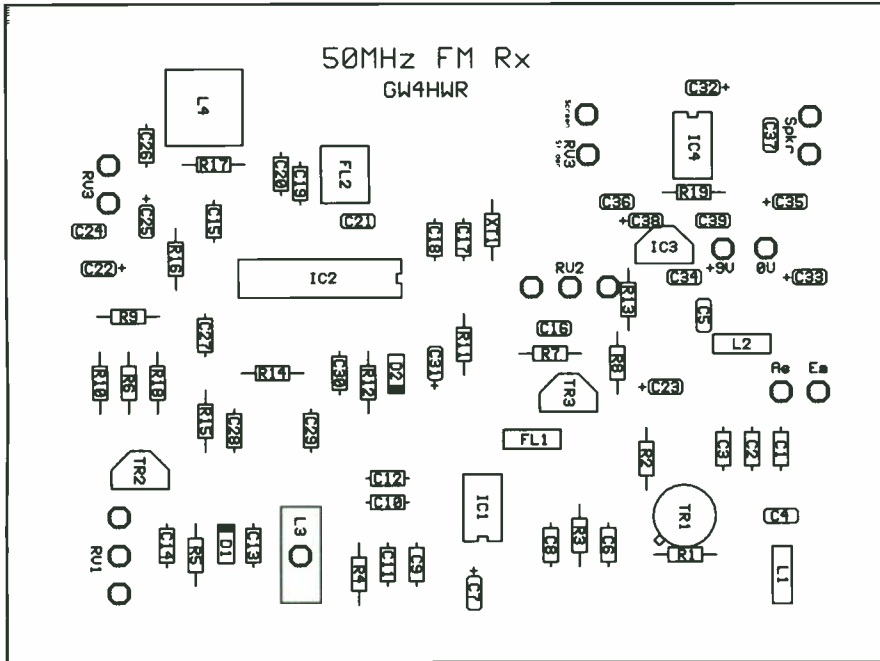
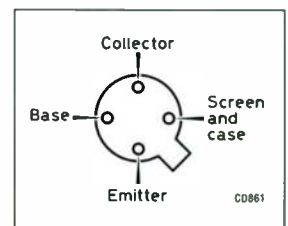
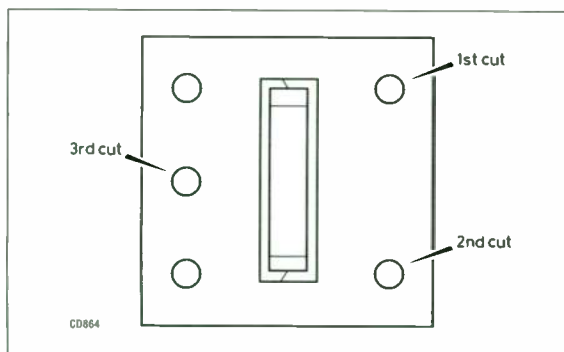

Fig 6.4. The layout of the components on the PCB as viewed from the plain side of the board
Fig 6.5. The pin connections of a BFY90 viewed from the underside
Fig 6.8. The order of 'cutting out' the pins from L4
1. Make a start by inserting the 16 terminal pins. The holes for these are indicated in the component layout diagram shown in Fig 6.4 by a ring. The pins should be inserted from the track side of the PCB and pushed down so that the heads are resting on the copper. Help with this operation is given in Appendix 1. Solder the heads to the board, taking care that the solder flows freely over both the pin head and PCB pad. It is advisable to insert two more pins in the holes intended for R18 – these are not marked with a ring in Fig 6.4. If fitted they will allow this resistor to be inserted (and changed if necessary) with the least upset after the receiver has been installed in its box.
2. If IC holders are to be used (they are strongly recommended), they should be put in next. The holders have a notch in one end, and this should be in the same position as shown in Fig 6.4. As an additional check the notch should be at the same end as the pin marked '1' on the track side of the board. These holders will
3. Insert IC3 (check the number carefully so that it is not confused with the 2N3904s which are the same shape) with the flat side in the same position as shown in Fig 6.4, and push it down so that it is standing about 3mm above the surface of the PCB. Solder the leads and clip off the excess.
4. Next, four capacitors, C33, C23, C34 and C39, are fitted. Note that the first two are electrolytic types and must be correctly oriented. They are radial types and the negative lead is normally marked by a strip carrying a '-' sign down the side of the can. Check continually with the layout diagram (Fig 6.4). The capacitors can be pushed down on to the PCB. The other two can be fitted either way round and should be pushed down as far possible. Some adjustment of the lead-out wires may be necessary as various types may have different lead pitch. Note that the above fitting instructions apply to all of the remaining capacitors.
pin marked 'Ea' on the overlay diagram in Fig 6.4 and the following points: pin 8 on the IC1 socket and pin 4 on the IC2 socket. In each case the voltage should be almost exactly 5V. If it is not, IC3 is almost certainly faulty or reversed. The voltage at pin 6 of IC4 socket should be 9V. Note that, if making these tests on the component side of the board, the pin numbering of the IC sockets starts at 'one' on the right-hand side of the notch and proceeds around the socket in an anti-clockwise direction.
Next fit TR1 which has a metal can and four leads. It is most important to get the orientation correct. Look again at the overlay diagram in Fig 6.4 and also at the pin connections to the transistor in Fig 6.5. Remember that it is conventional to show the connections from the underside, that is, looking at the pins as they point towards you. The little tab on the case is vital in getting things right. Starting at the
8. In this step the additional components required to complete the VFO (variable frequency oscillator) inside IC1 are fitted. Install resistors R4, R5, R6, R9 and R10 – in each case bend the wires at right-angles to the body and fit close to the PCB. Solder and trim the excess leads. Follow with capacitors C9, C10, C11, C12, C13, C14 and then C22 which is an electrolytic so ensure the correct orientation. All capacitors should be mounted as close to the PCB as possible – adjust the lead-out wires as necessary. Next fit D1 – this may be either a BB105 or a BB405. Obtain the latter if possible – both will do the job correctly but the BB105 has very short leads which will only just protrude through the holes in the PCB. In either case the polarity must be observed with the band pointing towards the centre of the board. Refer to Fig 6.4 for confirmation of position. TR2 can now be fitted, although it will be inoperable for the next test as its base will be open-circuit. Make sure that the flat is in the same position as shown in Fig 6.4. L3 completes the fixed components in this step. Check that it has eight and a half turns on a white former, then note the small ridge which runs down one edge and mount the coil so that this ridge is towards the edge of the board. It is important that the coil should be fitted as tightly as possible to the PCB as this helps to ensure the frequency stability of the oscillator. Push
Before the oscillator can be tested RV1 must be temporarily connected. The easiest way to do this is to use the 10k Ω potentiometer which will eventually be RV2 and solder it directly to the three pins on the PCB so that the spindle points outwards. The control will work the wrong way round but it doesn't matter at this stage. Finally insert IC1. The pins are normally splayed and should be bent inwards until they are parallel. Do this by holding the IC with the pins resting on a flat surface and bend the body so that all four pins are bent. Repeat with the pins on the other side. Before inserting the IC it is advisable to gently push an ordinary pin into each of the sockets in the IC holder to ensure that the individual sockets are not too tight. When satisfied, check both the number on the top of the IC (because IC4 is the same shape) and the position of the notch which must be in the position indicated in Fig 6.4. Locate all pins in the holder sockets and gently push the IC down without using too much force – if it won't slip in, check the pin alignment and the sockets again. RV4 and R18 will not be fitted until later.
doesn't matter but beginners would be advised to adopt this order: R9, R10, R7, R8, R13, R11, R12, R14, R15, R16 and R17. Follow with capacitors C16, C17, C18, C21, C19, C20, C15, C27, C28, C29, C30, C26 and C24. Electrolytic capacitors C31 and C25 must be fitted the correct way round. Filter FL1 has three pins and can be fitted either way round. Filter FL2 has three staggered pins which are rather flimsy so take care when fitting this component. The position of the holes is so critical that a small variation in drilling can make it difficult to fit this component so that it sits down on the PCB. Increasing the size of the three holes just a little using a round needle file or a slightly bigger drill will solve the problem. L4 has five pins and, in order to fit the component, three of these need to be cut out. Refer to Fig 6.8 and take care to cut the redundant pins in this order: pins 4 and 6 followed by the central pin 2 on the other side. If this pin is removed first it will be difficult to decide which of the remaining pins need to be cut. Cut the pins as close as possible to the base of the coil can. Push the can right down to the PCB, then solder the two active pins and the larger earth pins to the screening can. The crystal should be mounted close to the board and can be fitted either way round. D2 must be correctly oriented – if it is not, the squelch circuit will not work correctly. Finally fit TR3, carefully observing the position of the flat as indicated in Fig 6.4.